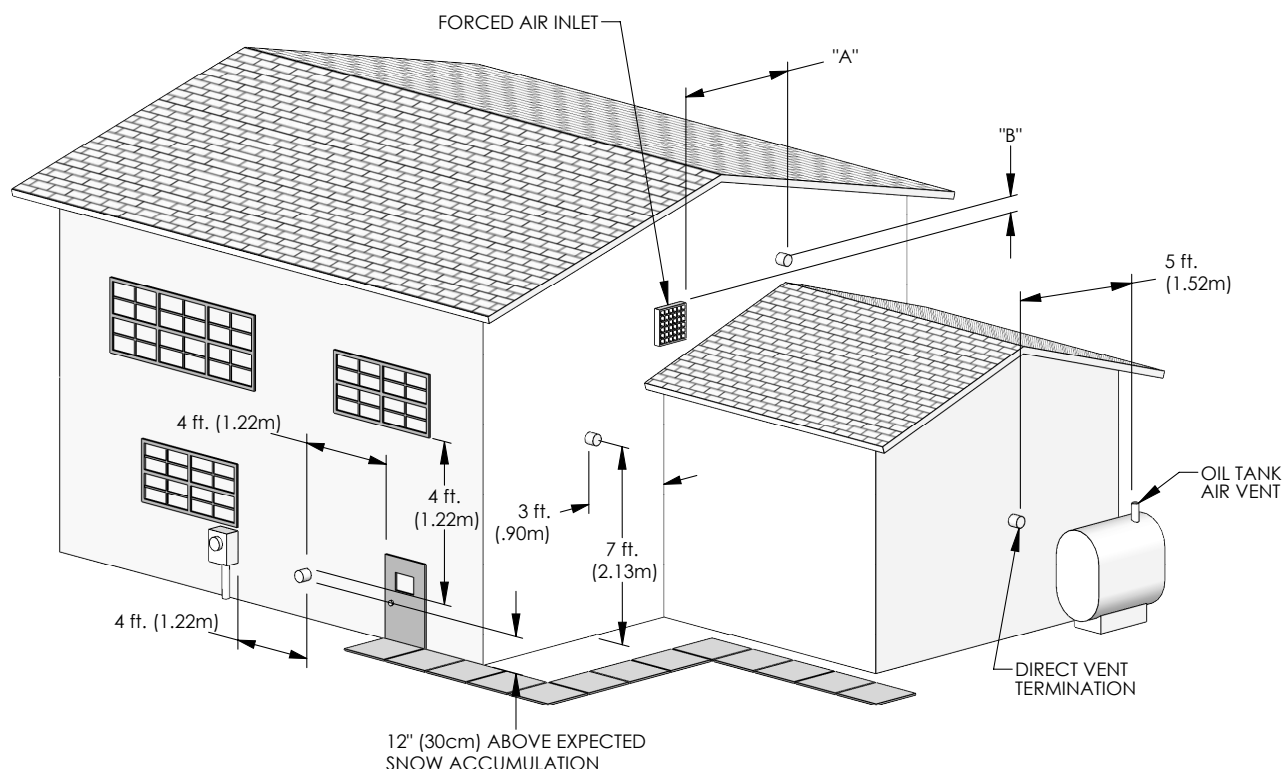

Figure 4.2: Location of Exit Terminals of Mechanical Draft and Direct-Venting Systems
- See Figure 4.2 for an illustration of clearances for location of exit terminals for direct-vent, sidewall venting systems.